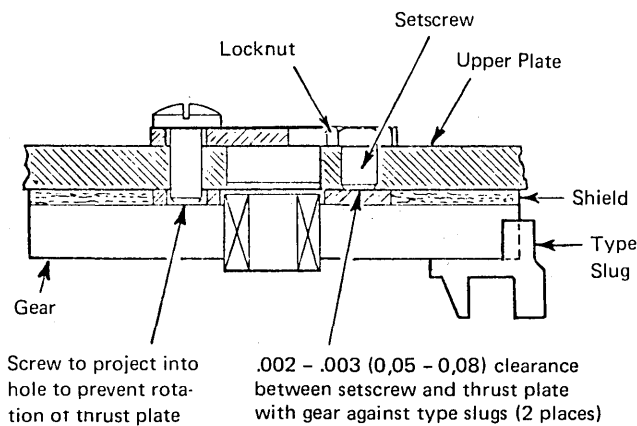

Figure 4-51. Upper Plate and Gear Clearance
13. Check for a clearance of .002 to .003 in. (0,05 to 0,08 mm) between the setscrews in the upper plate and the gear thrust plate (both ends). Adjust the setscrews as required (Figure 4-51).
13. Before tightening the 5 screws, loosen the other 4 and retighten all 9 screws finger-tight. The upper cartridge plate may bow if no clearance is between the thrust plates and their adjusting screws (Figure 4-51). At this time, check to make certain that some clearance is at these points before continuing with the tightening sequence. If necessary, back off slightly on the adjusting screws. (The 9 screws passing through the cartridge plates must be *very* tight, and tightened in sequence to prevent a warped assembly. *Starting with the center screw and working alternately outward*, tighten all screws to about 3/4 of their final torque.